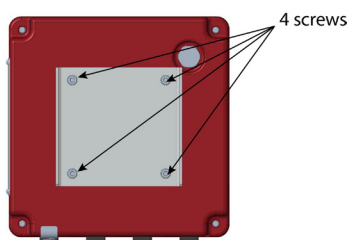

Figure 7: Rotatable adapter plate
4. If necessary, you can rotate the mounting bracket in 90° increments to accommodate the final orientation of the transmitter. From inside the enclosure, remove the 4 screws holding the bracket. Rotate the bracket and replace the screws. See *Figure 7*.